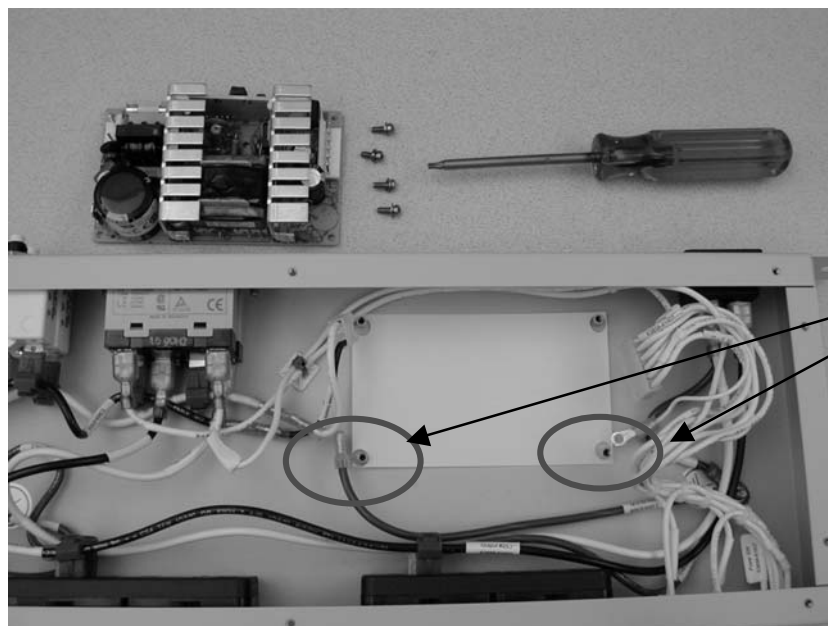

Figure 9. Remove Paint Residue from these Posts.
- Use a flat-blade screwdriver (or razor blade) to scrape any paint residue from the top of the posts indicated in Figure 9. This will ensure a good electrical contact between the PDU chassis and the power supply.